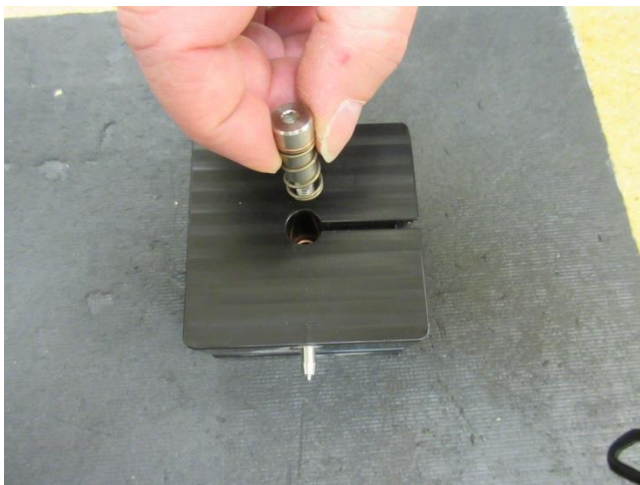

Figure 9: Inserting the shoulder bolt
- Insert the shoulder bolt with the spring and second brass washer into the nest. (Figure 9)